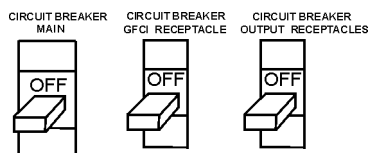

Figure 35. Main, GFCI and Load Circuit Breakers
1. Be sure to disconnect the electrical load and switch the **main, load** and **G.F.C.I.** circuit breakers (Figure 35) to the "OFF" position prior to starting the engine.